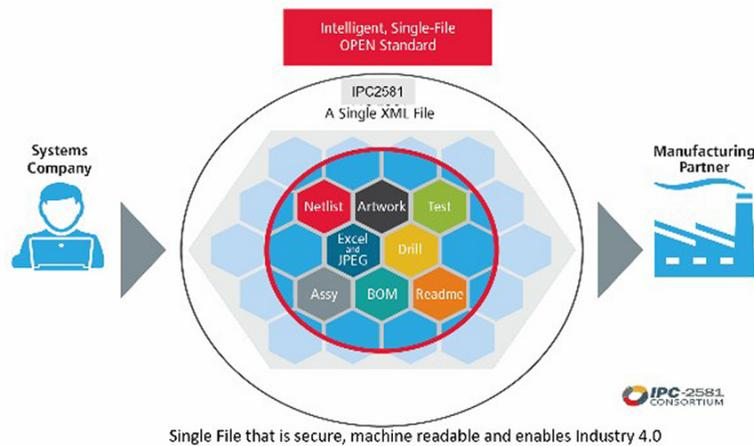

Figure 2. IPC-2581 consolidates netlist, drill, BOM, test and documentation data into a single XML file.
1. **Complete machine-readable data.** IPC-2581 includes fabrication, assembly, test, stackup, impedance, drawings, dimensions – everything – in a structured format tools can interpret automatically (**Figure 2**).